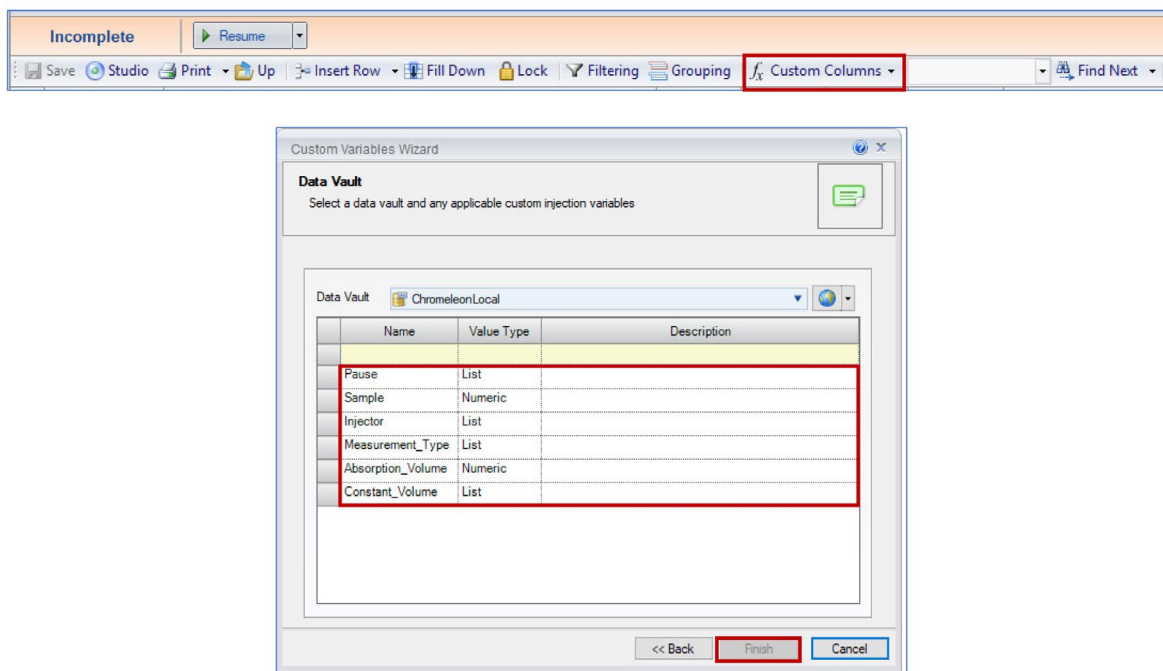

Figure 14. Importing Custom Variables Editor
6. To import the custom variables into the sequence, select the f_x Custom Columns button (Figure 14) in the command lines. Select *Insert Custom Variables*, and *Import Custom Injection Variable from data vault* (Figure 14).
7. Highlight the custom variables table. Select *Finish*. (Figure 14) All custom variables should be visible. Verify the "Value Type" to check for errors.